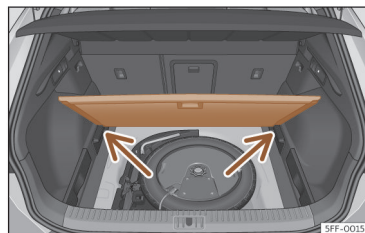

Fig. 188 Variable boot floor: tilted position.
- Rest the floor on its housings >>> Fig. 188 (arrows).